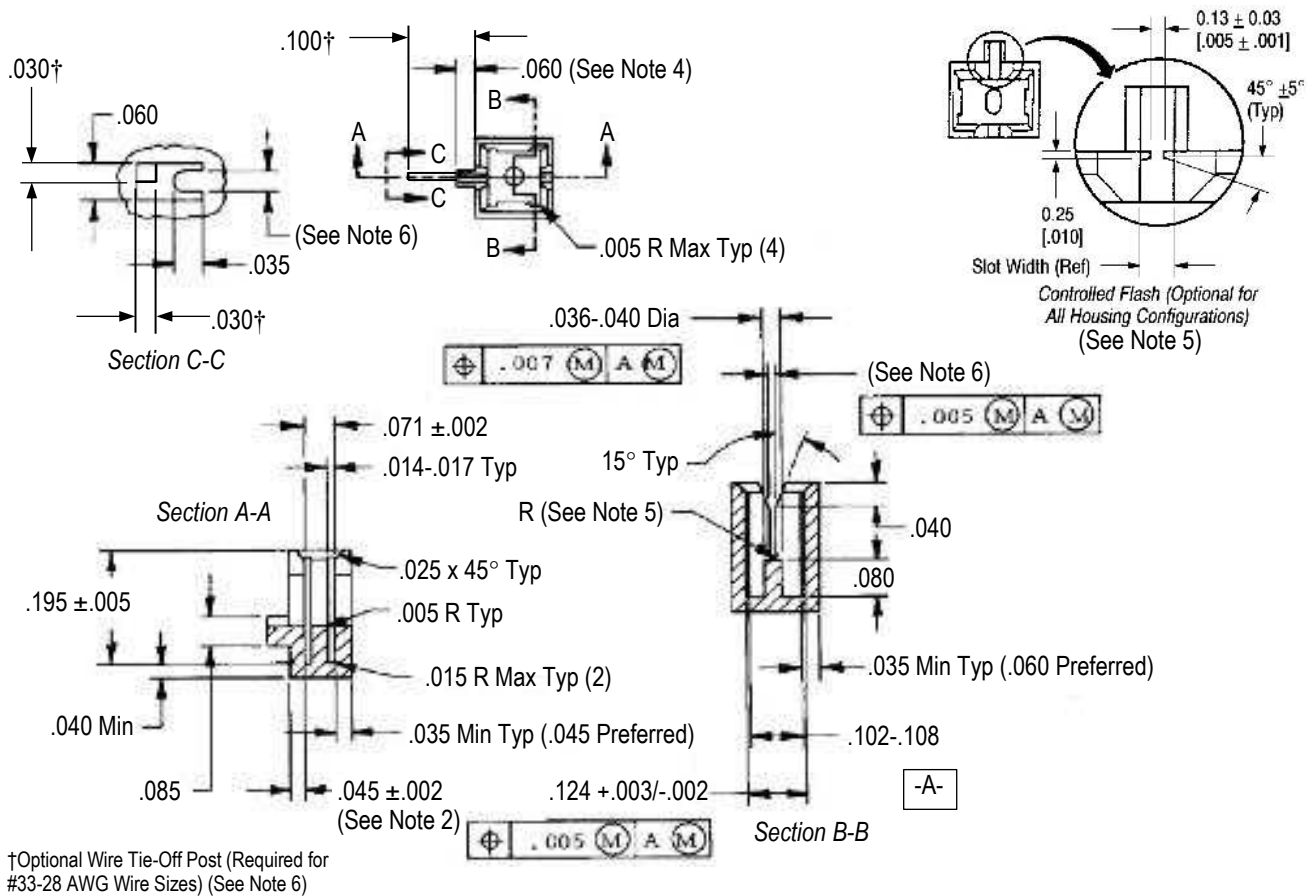
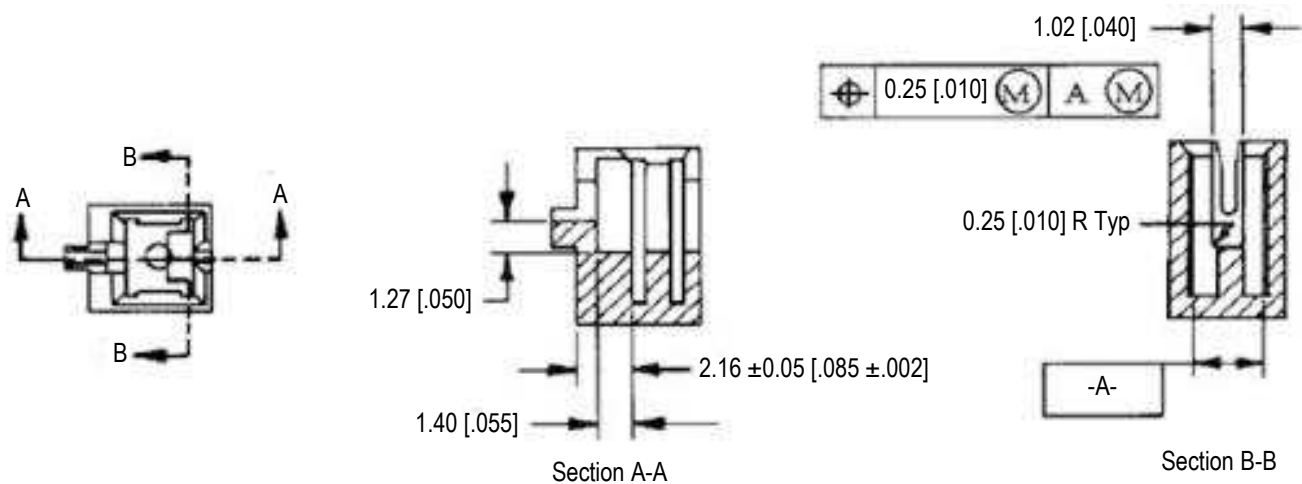
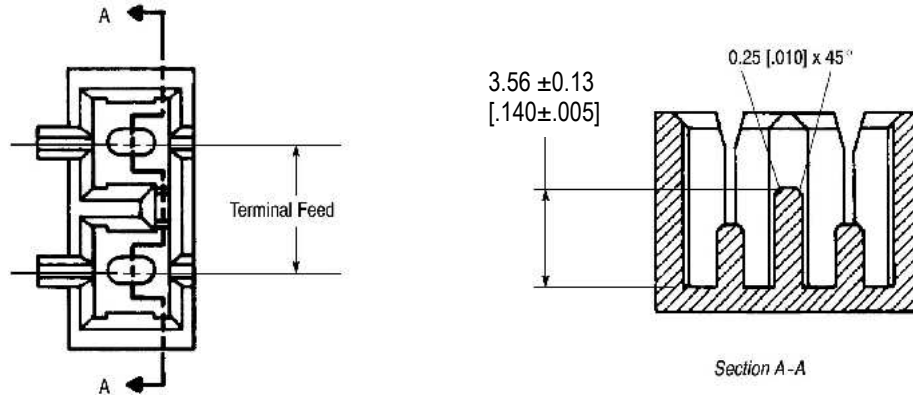
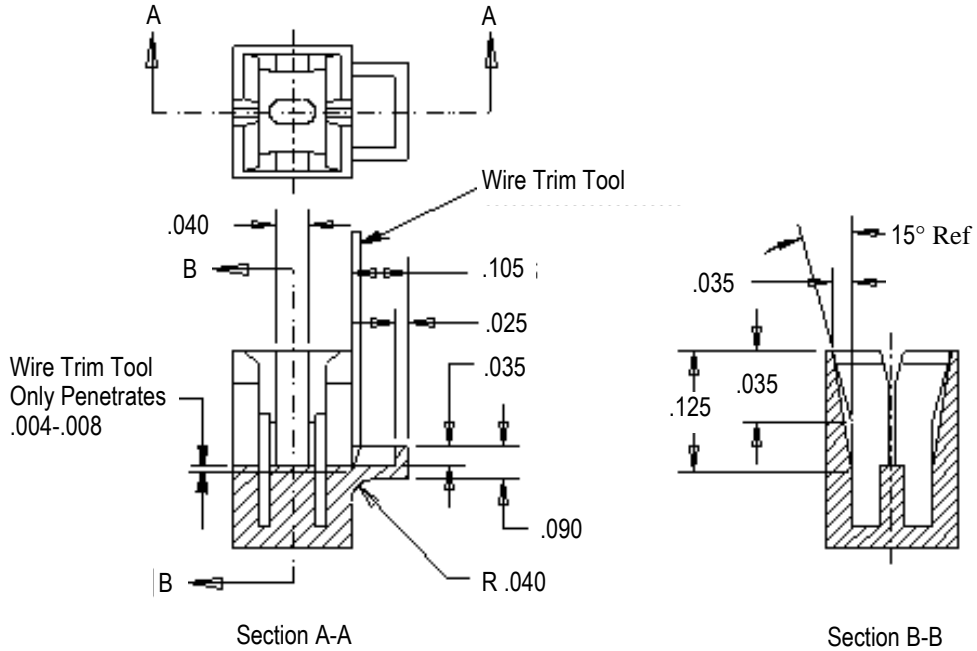

Figure 3
Figure 4
Figure 5
Figure 6
The external design of the housing will depend on your requirements. Internal cavity designs must conform to the dimensions provided in Figures 3, 4, or 5. Pre-design consultation with TE Engineering is necessary to be sure the cavity configuration will be functional and that it will be compatible with automatic insertion machines.
This housing design has a wire support above the anvil that allows the wire to be cut before the terminal is fully seated. As the terminal is seated, it pulls the wire end down and conceals it in the pocket behind the wire support. All the dimensions given for the exposed wire end cavity in Figure 3 apply, except for those that appear in Figure 4.
The following Notes apply to the housings shown in Figures 3 and 4:
- (1) Housings must be glass-filled polyester material or approved equivalent.
- (2) The wire trim side of the housing shall have an even thickness to prevent damage to the housing when trimming excess wire.
- (3) Coil windings and other components must not extend above the wire slot or otherwise obstruct seating of the terminal or wire.
- (4) The housing must have a wire trim support if automatic machine insertion is used. It is not necessary for the housing to have a wire trim support if inserting the wire with a hand insertion tool.
- (5) Controlled flash may be used in the wire slot at wire end to provide retention and stability for a broad range of wire sizes. See controlled flash detail, Figure 3.
- (6) Cavity Slot Width Recommendations:
Multiple cavity housings can be made with exposed or concealed wire ends and wire slots with or without controlled flash as defined by the dimensions in Figures 3 and 4. They can also be made to accommodate commoned terminals by using a shorter wall between cavities. See Figure 5.
For applications involving termination of aluminum magnet wire, it is often necessary to apply a protective gel to exposed bare wire at the IDC interface and wire trim areas. The housing option shown in Figure 6 includes enhanced lead-in to facilitate injection of gel down inside the terminal to coat the IDC interface areas. Also shown is a special wire trim tray option where the excess magnet wire can be trimmed off and still leave a tray for application and retention of gel at the exposed wire end. If there is no room for a wire trim tray, the concealed wire end option as shown in Figure 4 also provides a good solution. All the dimensions in Figure 3, Section A-A and B-B apply except for those that appear in Figure 6.